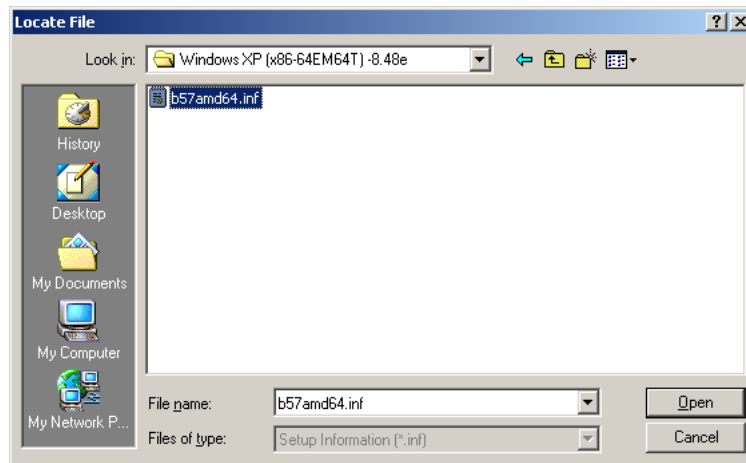

Figure 7-22: Location Browsing Window
Step 10: The **Locate File** window appears (Figure 7-22).